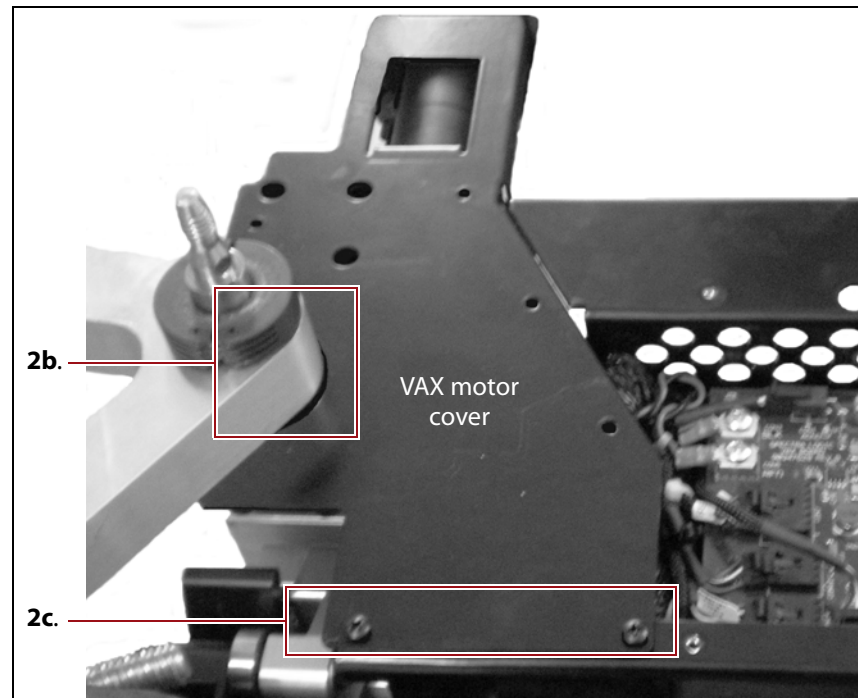

Figure 18 VAX motor cover installation.
- b. Ensure that the cover sits inside of the VAX Column Support Stand, as shown in Figure 18 on page 16.